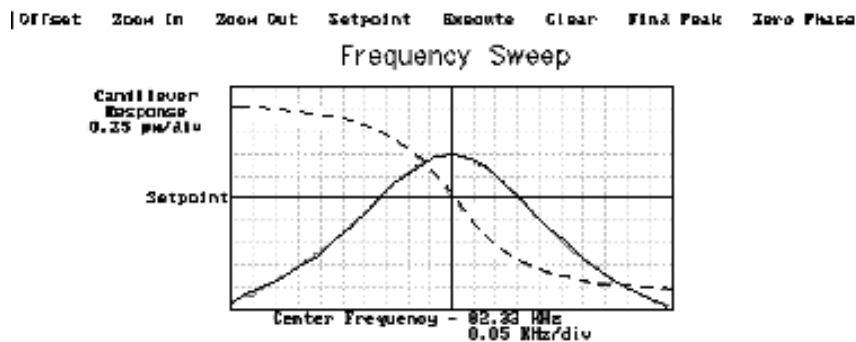

Figure 229-3 Cantilever Tune for Phase Detection and Frequency Modulation
3. The procedure to tune the cantilever drive frequency and amplitude depends on whether you are using phase detection or amplitude detection. Both cases rely on automatic **Cantilever tune** just as when preparing for TappingMode; see Chapter 8 of the product instruction manual. MFM cantilevers have resonant frequencies between 50 and 100 kHz. If using the **AutoTune** feature, these values can be used as bounds for the frequency sweep. With the Extender option, two curves appear in the **Cantilever Tune** box: the *amplitude* curve in white, and the *phase* curve in yellow (Fig. 229-3). Microscopes without the Extender Electronics Module display only the amplitude curve.
The **Drive frequency** should be set to the center of the cantilever resonance, as shown in Figure 229-3. This will be done automatically if using **AutoTune**.
To correctly track the cantilever phase, the **Phase offset** parameter must be adjusted. This is automatically done in **AutoTune**; alternatively, **Zero Phase** can be selected from the menu bar above the **Cantilever Tune** frequency sweep window. The phase curve should appear as in Figure 229-3, decreasing with increasing frequency, and crossing the center line (corresponding to a 90° phase lag) at the peak frequency. The phase curve then measures the phase lag between the drive voltage and the cantilever response. Again, vertical gradients in the magnetic force cause a shift Δf_0 in the resonance frequency. In this case, resonance shifts give rise to phase